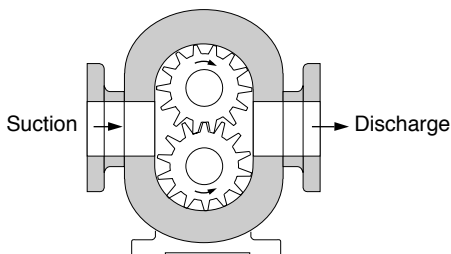

FIGURE 62. External Gear Pump
- Theoretically, each revolution of the drive shaft of a rotary pump displaces the same quantity of liquid regardless of changes in the head. This quantity is called *displacement*. Using an external gear pump as shown in Figure 62, for example, displacement is the sum of the volumes between all the spaces between the gear teeth (both gears).